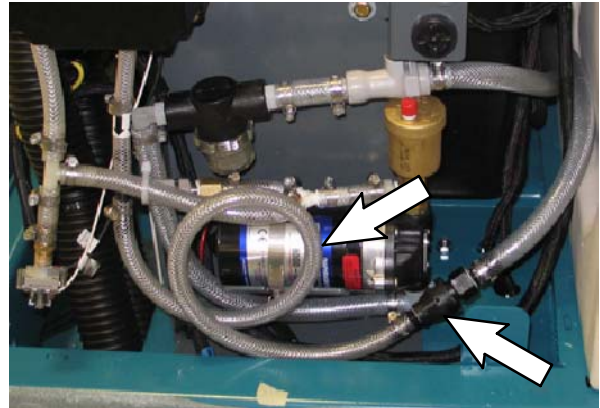

FIG. 11
22. Connect hose from the scrub head to the *ec-H2O* assembly outlet hose. Refer to Fig. 11.
NOTE: Be sure the outlet hose from ec-H2O assembly is looped as shown in Fig. 11.